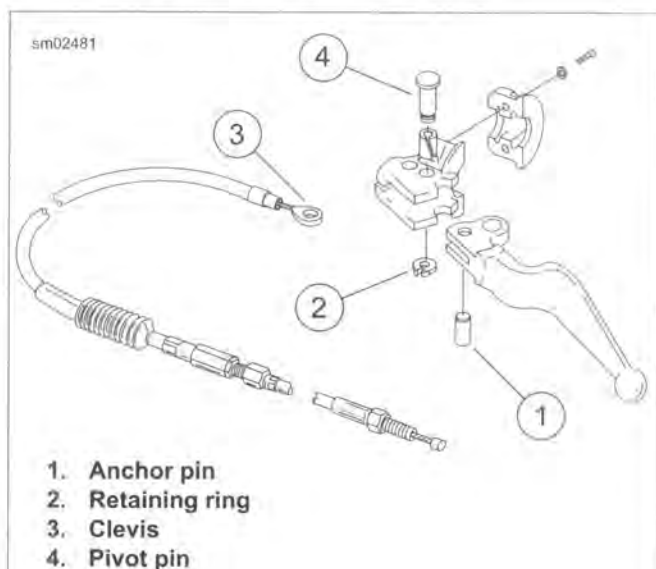

Figure 2-119. Clutch Cable Installation
2. See Figure 2-119. Remove the anchor pin (1) from the hand lever. To remove anchor pin, remove the retaining ring (2) and pivot pin (4).
7. See Figure 2-119. Insert anchor pin (1) through handle and clevis (3).
8. Place handle in bracket. Install pivot pin (4) and retaining ring (2).